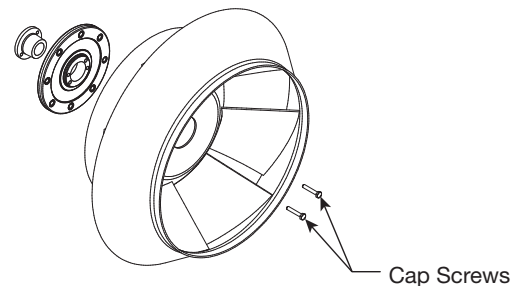

Figure 3
2. Loosen and remove the socket head cap screws which fasten the bushing to the hub as shown in Figure 3.